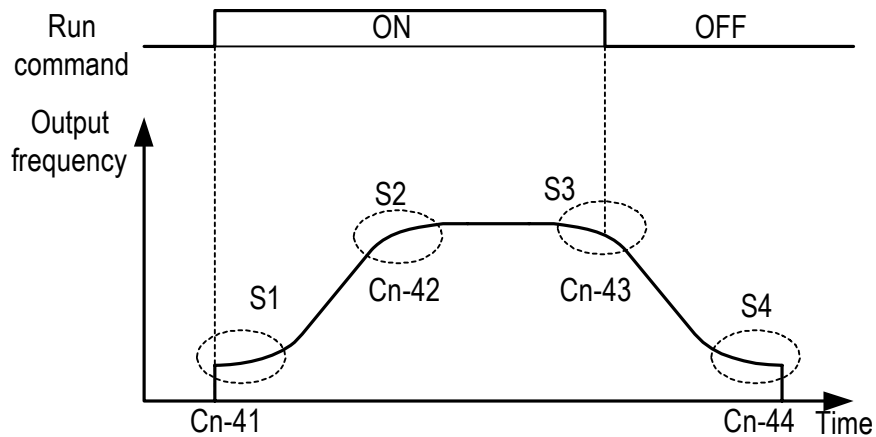

Fig. 25. S curve
(35) Low Voltage Alarm Detection Level (Cn-39)
(36) Slip Compensation Primary Delay Time (Cn-40)
(37) S-curve Characteristic Time at Acceleration Start (Cn-41)
(38) S-curve Characteristic Time at Acceleration End (Cn-42)
(39) S-curve Characteristic Time at Deceleration Start (Cn-43)
(40) S-curve Characteristic Time at Deceleration End (Cn-44)
- Using the S-curve characteristic function for acceleration and deceleration can reduce shock to the machinery when stopping and starting. With the inverter, S-curve characteristic time can be set respectively for beginning acceleration, ending acceleration, beginning deceleration and ending deceleration. The relation between these parameters is shown in Fig. 25.